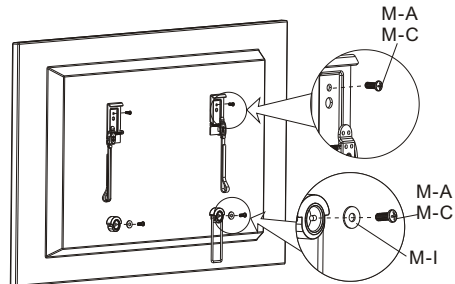
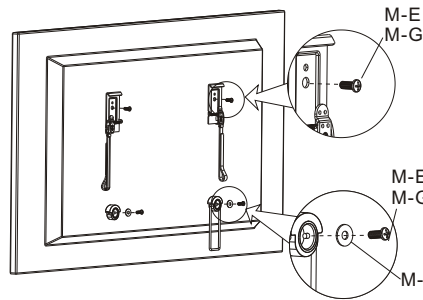
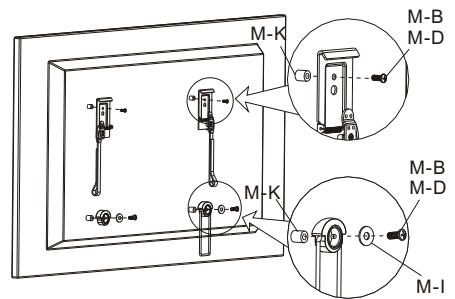
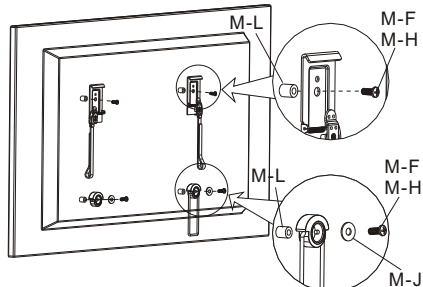

fig. 2.2
fig. 2.3
fig. 2.4
fig. 2.5
- Attach the adapter brackets and supporting spacer to the back of the screen using the appropriate combination of screws, washers, and spacers, as shown in fig. 2.2, fig. 2.3, fig. 2.4 and fig. 2.5.